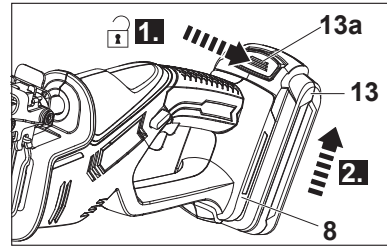

Fig. 3
2. Press the release button (13a) and remove the battery pack (13) from the battery docking port (8) (Fig. 3).